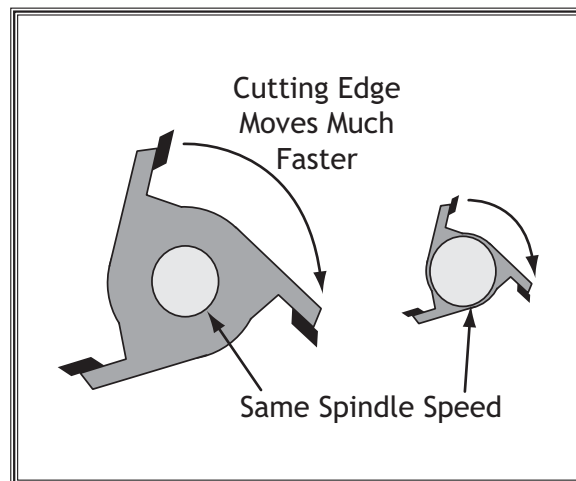

Figure 23. Relative speed of cutting edges between large and small cutters.
- The cutting edges of large cutters travel faster than those of smaller cutters at the same spindle speed (see Figure 23). Use slower speeds for larger cutters.